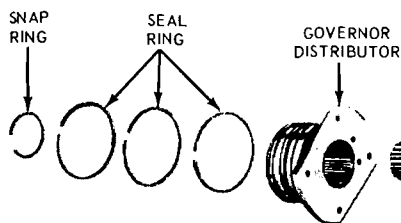

FIG. 68—Output Shaft Disassembled
2. Remove the snap ring that secures the governor distributor on the output shaft (Fig. 68) and slide it off the front of the shaft.
3. Position the governor on the distributor (Fig. 68) and secure them with the attaching screws.